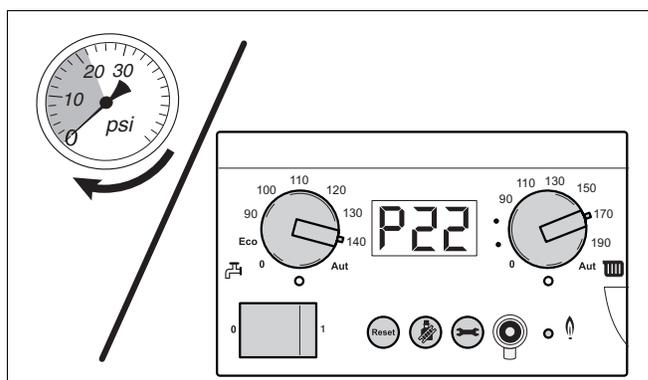

Fig. 50 Reading the pressure gauge
- Read the pressure (PSI) from the pressure gauge on the pump group or on the control panel of the BC10 (fig. 50).